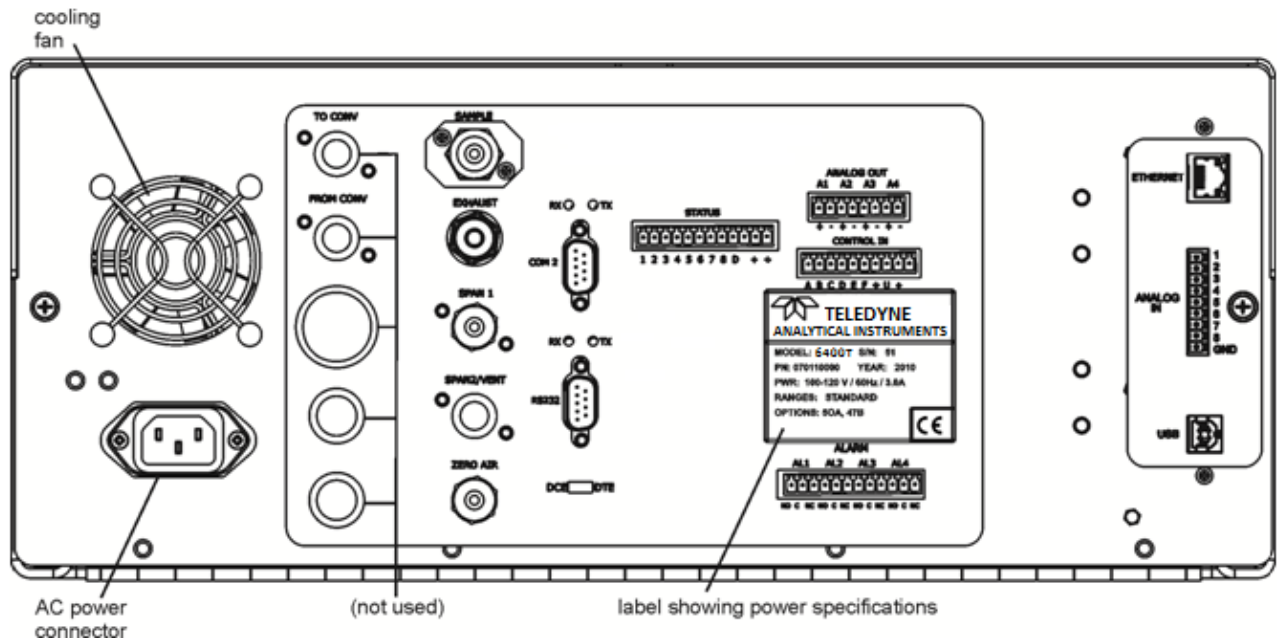

Figure 3-4: Rear Panel Layout
**To avoid damage to your analyzer, ensure that the AC power voltage matches the voltage indicated on the Analyzer’s model identification label (refer to Figure 3-4) before plugging the 6400T into line power.**